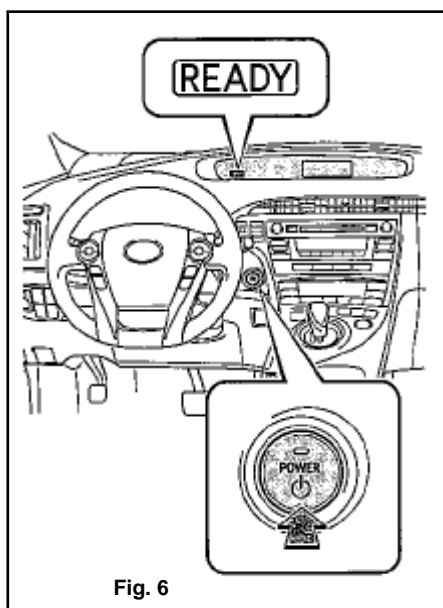

Fig. 6
- Apply the parking brake. With the brake pedal depressed, press the “POWER” switch and check that the “READY” light illuminates when the hybrid system starts. The “READY” light is 'on' (see Fig. 6).